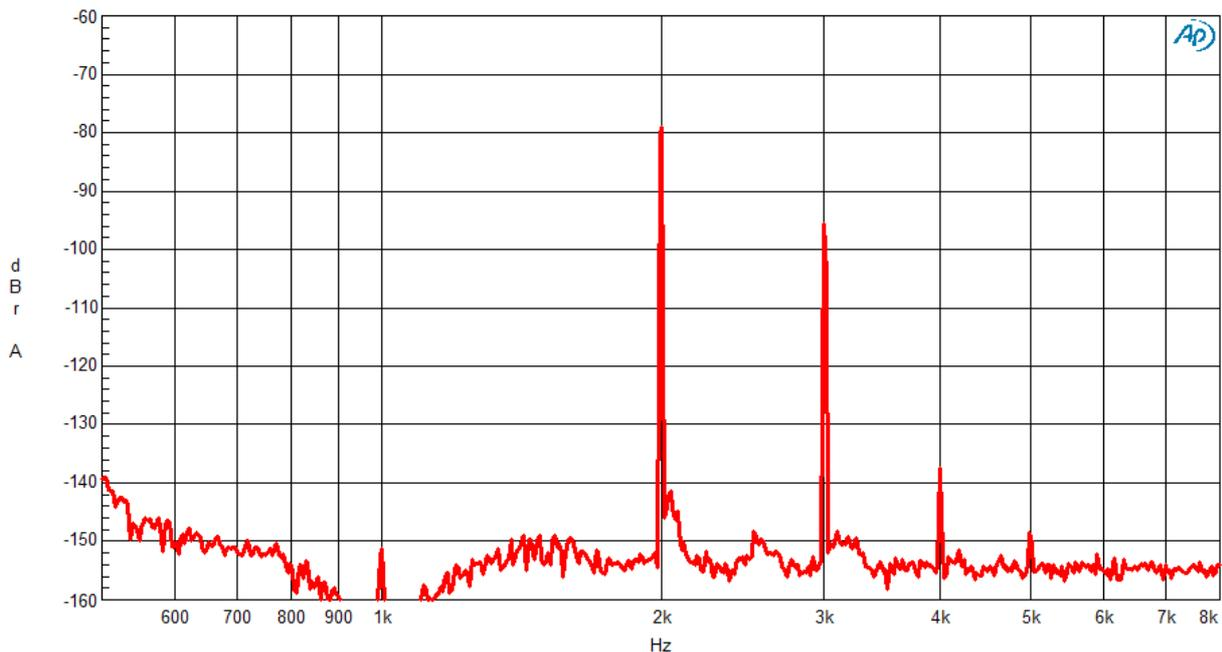

Fig.1 THD at 1kHz, 1V, balanced, 10k load
1. Harmonic distortion at spot frequencies. Measurements have been performed at 1kHz and 5kHz. 1KHz measurements have been performed at 100k load and 10k load, all in balanced mode and 1V input signal. Results are shown in figures 1, 2 and 3 below.